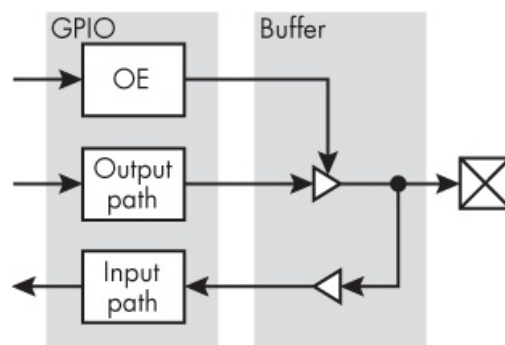
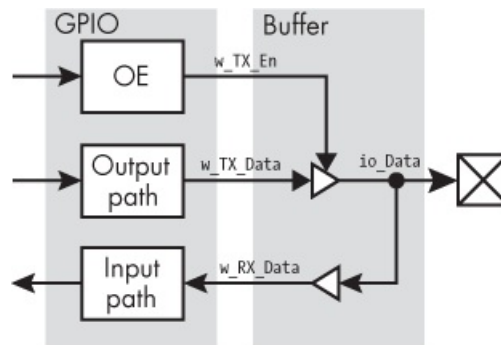

Figure 11-1: A simplified GPIO block diagram
Figure 11-2: A labeled bidirectional interface
GPIO pins interface with an FPGA through *buffers*, electronic circuit elements that isolate their input from their output. These buffers are what allow you to configure some pins as inputs and others as outputs. As you'll see soon, they even allow you to toggle a pin between input and output while the FPGA is running. Figure 11-1 shows a simplified block diagram of a GPIO pin interface on an Intel FPGA, to illustrate how a buffer serves as an intermediary between the pin and the internal FPGA logic.
Let's look at how to code a bidirectional pin using Verilog or VHDL. As you examine this code, refer to Figure 11-2 to see how the signals in the code match the block diagram from Figure 11-1:
We declare the bidirectional pin (*io_Data*) with the keyword *inout* in both Verilog and VHDL ❶. At this point we can imagine that we're at the pin, as indicated by the label *io_Data* in Figure 11-2. We'll need to map this signal to one of the FPGA's pins in our physical constraints file. For the input functionality, we simply use an assignment to drive *w_RX_Data* with the data from the pin ❷. On the output side, we selectively enable the output buffer using